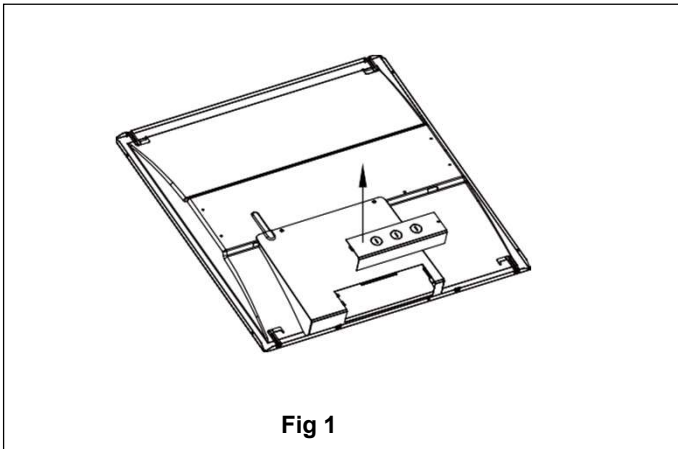

Fig 1
2. Remove the driver cover. **See Fig 1.**